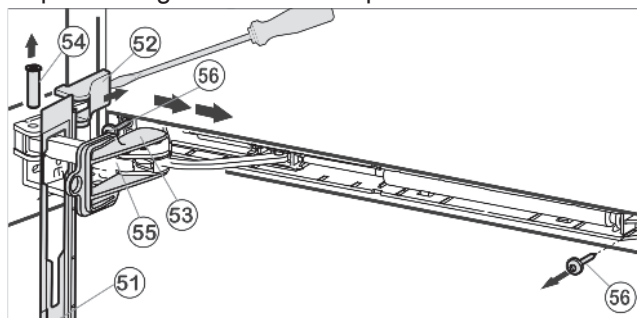

Fig. 16
▶ Push panel forwards over the damper bracket *Fig. 16 (55)* in the direction of the appliance.
▶ Engage locking device *Fig. 16 (53)* into place inside oblong hole.
▶ Lift off cover *Fig. 16 (52)* from the outside using a screwdriver and remove by pulling outwards.
▶ Push bolt *Fig. 16 (54)* out from below.
▶ Press damper bracket *Fig. 16 (55)* in the direction of the door.
▶ Remove panel *Fig. 16 (51)*.
▶ Unscrew entire soft stop unit (2 x Torx 15) *Fig. 16 (56)*.